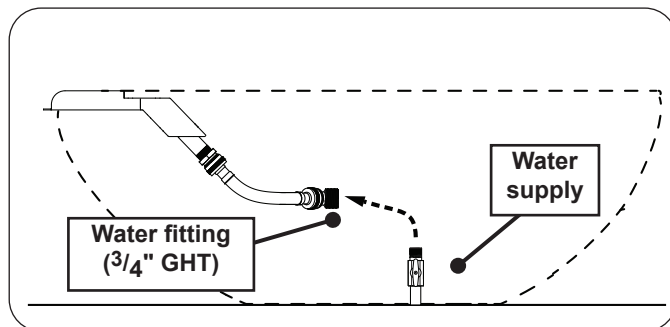

Fig. 29-2 Connect water supply (if applicable)
2. Plumb the water supply to the $\frac{3}{4}$ " GHT fitting (see Fig. 29-2).